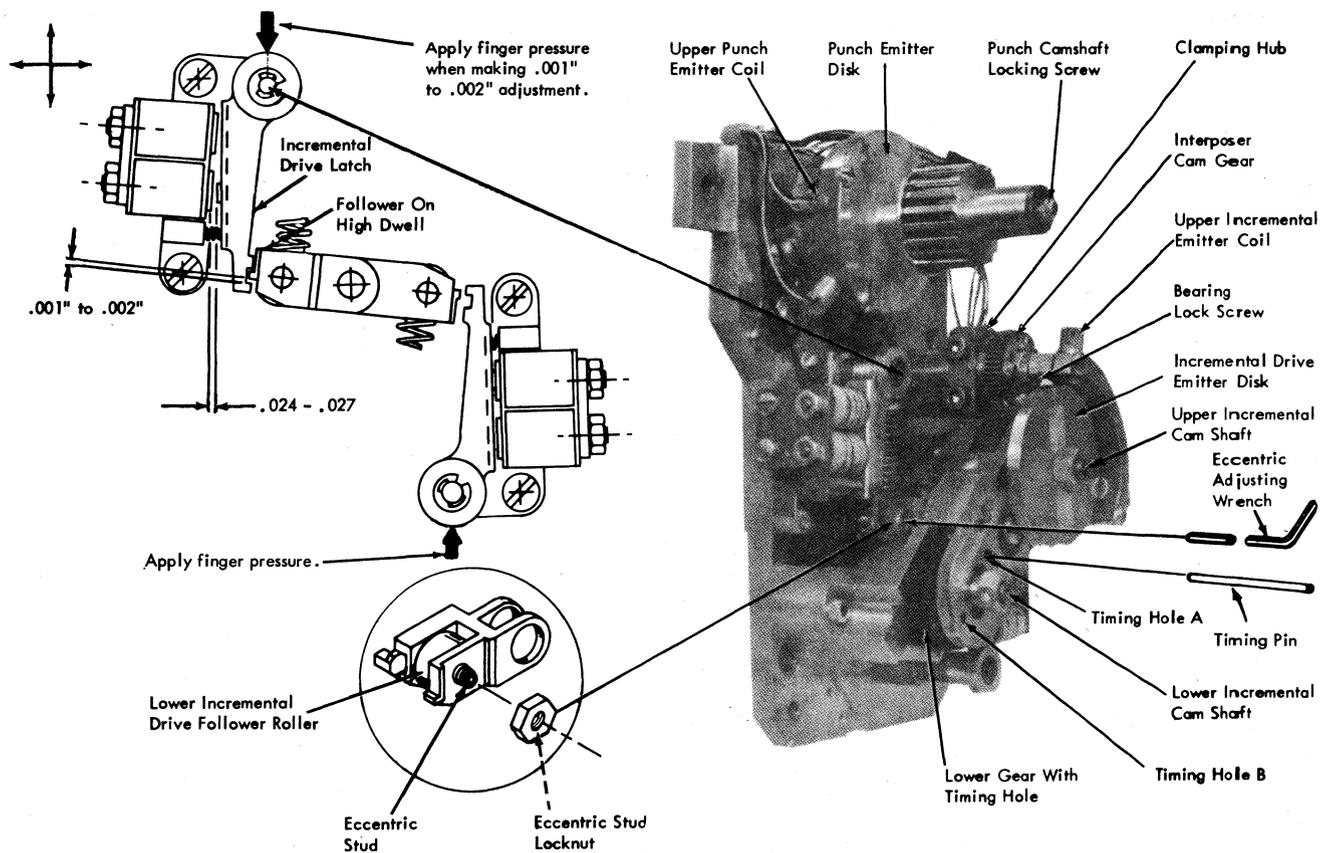

Figure 4-47. Incremental Drive Adjustments
- a. .024" to .027" between latch and magnet core furthest from latch pivot (Figure 4-47).
- b. .001" loose and .002" tight clearance between latch latching surface and follower latching surface while maintaining finger pressure on latch (Figure 4-47). Turn drive to other high dwell on cam and recheck this clearance. Use special gages, P/N's 626532 and 626533, to check for this clearance. The accuracy of this adjustment is essential for proper incremental drive operation.
1. Remove mounting bracket containing incremental drive emitter coils (Figure 4-47).
3. Turn incremental drive gears until incremental drive timing hole A (Figure 4-47) aligns with hole in gear. Insert timing pin.